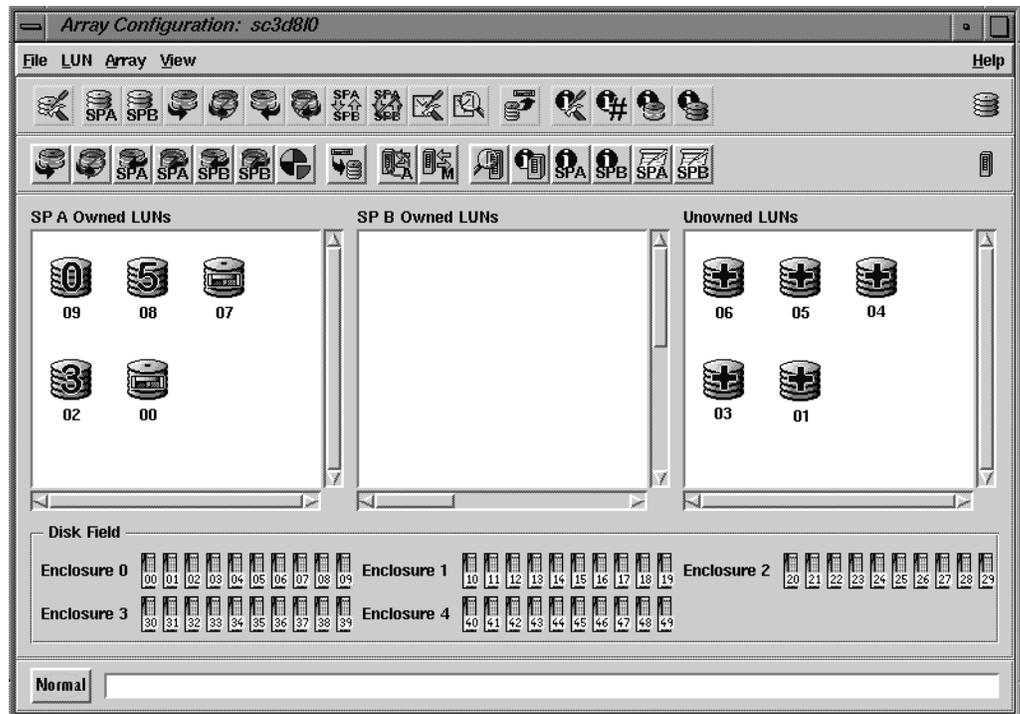

Figure 5-9 Array Configuration Window: Disk Module IDs
5. A message about the disk module contains its module ID. If the disk module button does not, in the Array Configuration window, choose Show Disk IDs from the View menu to see the location of the disk module. Figure 5-9 shows an example.